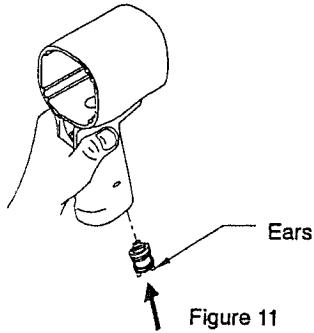

Figure 11
1. Install the Bottom Reverse Valve O-ring (37) (color-coded blue) and the Top Reverse Valve bring (36) on the Reverse Valve (35).
2. Insert the Reverse Valve in the bottom of the handle making sure that two ears on the Reverse Valve are facing downward. See Figure 11.